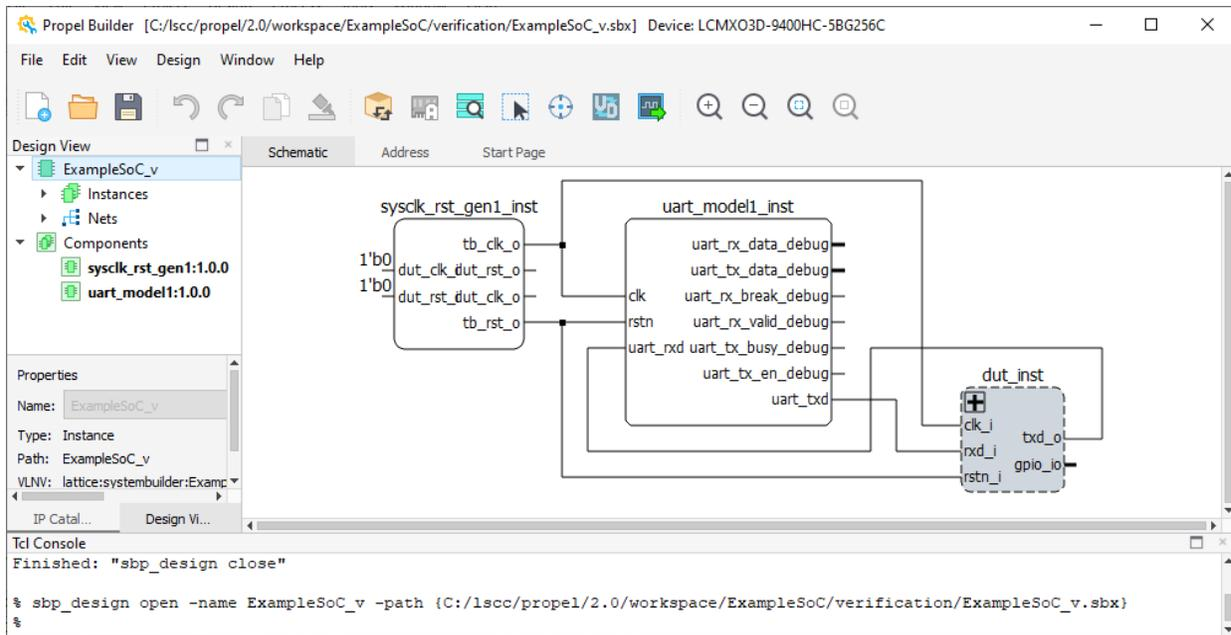

Figure 3.29. SoC Verification Project
2. Click the **Switch** icon on the toolbar to switch between SoC design and SoC verification project (Figure 3.29).
3. After the SoC design is switched to a SoC verification project, click the **Generate** icon to generate the simulation environment for OEM ModelSim. Click the **Launch Simulation** icon (Figure 3.29).